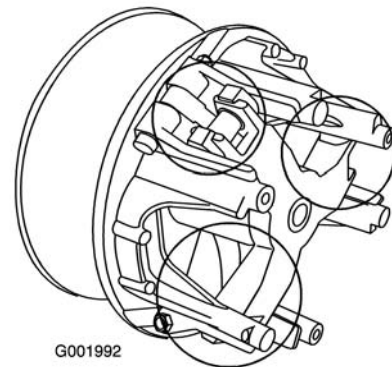

Figure 54
5. Lubricate the moving parts in the areas circled in Figure 54 using Toro Dry Lubricant Spray, available through your Authorized Toro Dealer or Distributor.